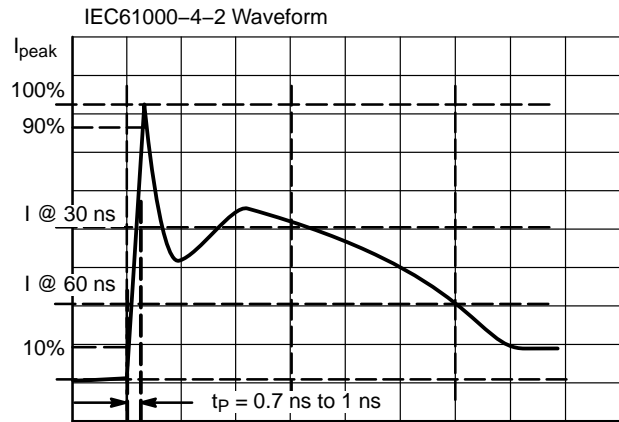

Figure 8. IEC61000-4-2 Spec
- For test procedure see Figures 8 and 9 and application note AND8307/D.